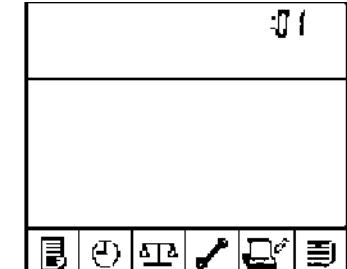

Fig 19
Select "F—02" then press "①" button, you could set detect address number, the range is 1-99, as figure 19. Press the "①" the setup, it will back to the detecting state automatically. Please record the person after setup to avoid confusion.